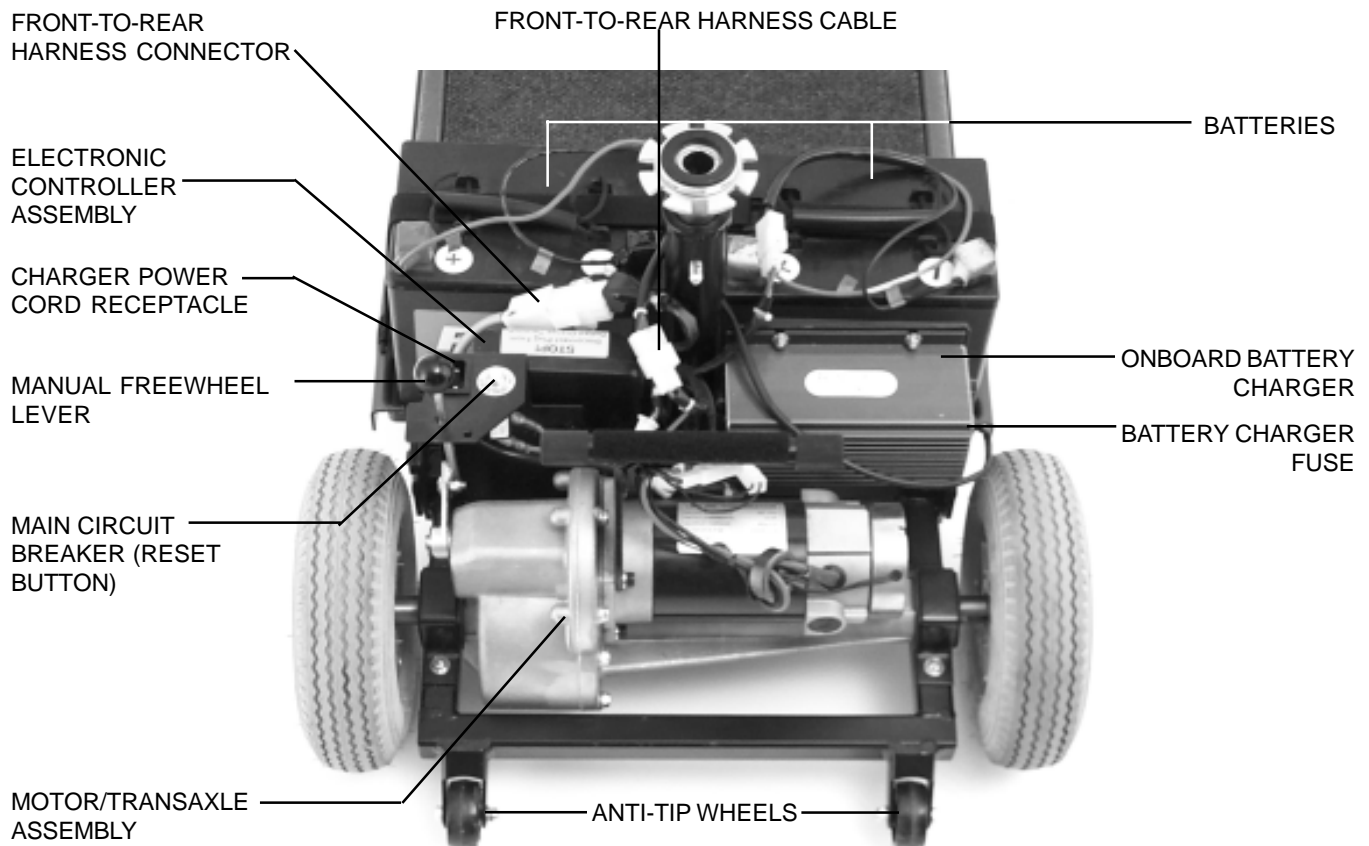

Figure 7. Rear Section
The onboard battery charger, the charger power cord receptacle, the battery charger fuse, the batteries, the electronic controller assembly, the main circuit breaker, the manual freewheel lever, and the motor/transaxle assembly are located on the rear section of your scooter. The anti-tip wheels are at the rearmost part of your scooter. See figure 7.
- The charger power cord plugs into the battery charger by means of a receptacle located on the rear section of your scooter, near the manual freewheel lever and the main circuit breaker reset button. See figure 7.
- The main circuit breaker is mounted on the rear section of the scooter, near the manual freewheel lever. See figure 7.
The motor/transaxle assembly consists of a geared transmission and differential. See figure 7. This one piece, direct drive, fully sealed assembly provides quiet operation with maximum power and long life.
The anti-tip wheels are an integral and important safety feature of your Rally Shopper. Do not, under any circumstances, remove the anti-tip wheels from your Rally Shopper. Your scooter is also equipped with front anti-tip wheels (not shown). See figure 7.